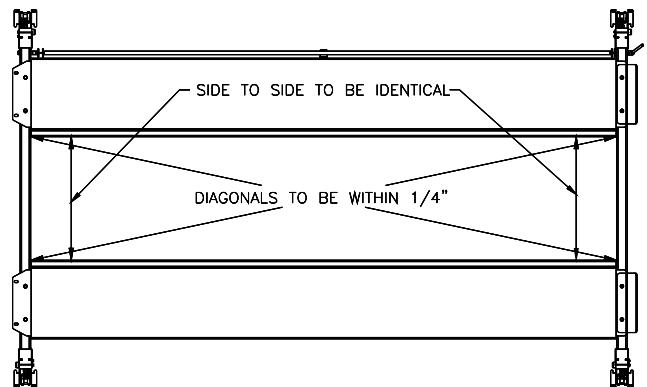

Fig 11 – Final Runway Positioning
- 21) Check the layout of the lift in the bay. If anchoring the lift, this is the last chance to make adjustments. Adjust the position of the runways so the distance from power side jack rail to idler side jack rail is the same at the front and the rear and the diagonal measurements from the front tip of one rail to rear tip of the opposite rail are within 1/4", **Fig 11**.